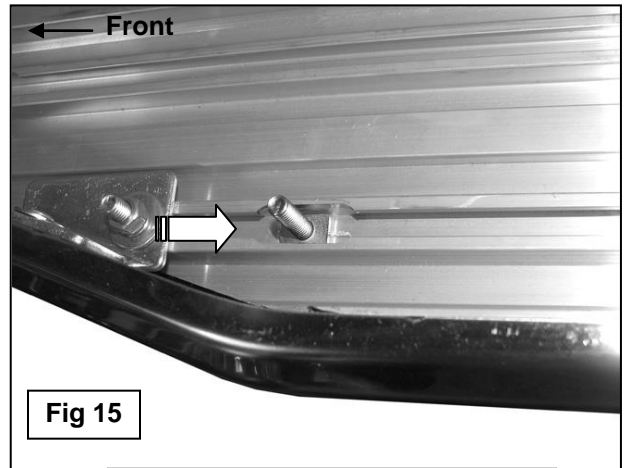

Fig 15
15. Carefully unwrap the driver side Running Board. From the front, slide (3) 6mm T-Bolts into each channel in the bottom of the Running Board, **(Figure 15)**. Slide the T-Bolts forward or back to line up with the slots in the (3) Mounting Brackets. Hold the Running Board up to the vehicle at a slight angle and gently push it into position against the rocker panel. Insert the T-Bolts through the slots in the Brackets but leave loose at this time. **NOTE:** It may be necessary to loosen, (but not remove), the Bracket hardware to insert the Running Board between the Brackets and the body. Once the Running Board is in the approximate position and the T-Bolts lined up with the (3) Brackets, attach the Running Board to the Mounting Brackets with the included (6) 6mm Flat Washers, (6) 6mm Lock Washers and (6) 6mm Hex Nuts, **(Figure 16)**. Do not tighten hardware.